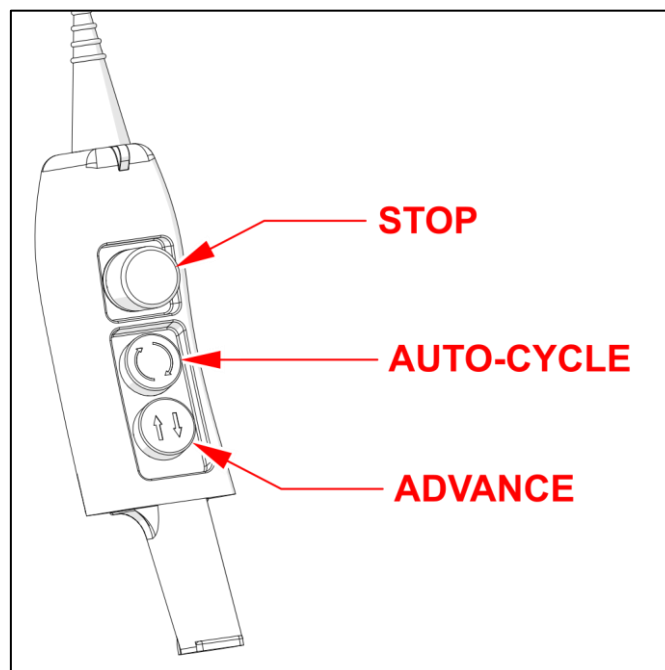

Figure 5.6: Control Pendant Buttons
- Ensure the pressure relief valve (12) is fully open (wound anti-clockwise).
- Press the ‘Advance’ button on the control pendant (18) once, to turn on the pump. (See figure 5.6)
- Press and hold the ‘Advance’ button (see figure 5.6) on the control pendant (18). The tool may stay stationary or advance slowly depending on the relief valve setting.
- Set the adjustable relief valve (12) to approx. 100 bar. The tool will advance to its full stroke. If the tool retracts, then the hoses are connected incorrectly and need to be swapped over at the tool couplers. **(Function test)**
- Switch off the pump unit by pressing the 'Stop' button (see *figure 5.6*) on the control pendant (20) and check the tool and connections for any leaks. If leaks are found, these **MUST** be rectified before commencing with any torque operation.